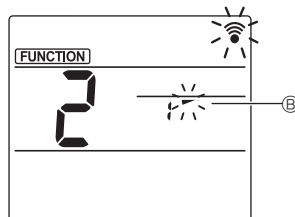

Fig. 3
- ③ Stille inn spjeldvinkelen (fig. 3)